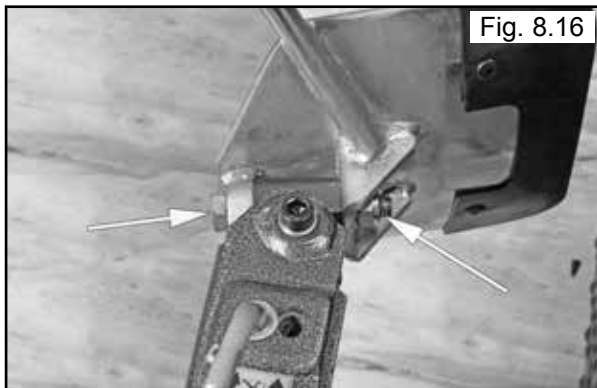

Fig. 8.16
1. Attach the Bead Breaker Blade to the Bead Breaker Arm Assembly. Secure the Nyloc nut. (See Fig. 8.16)